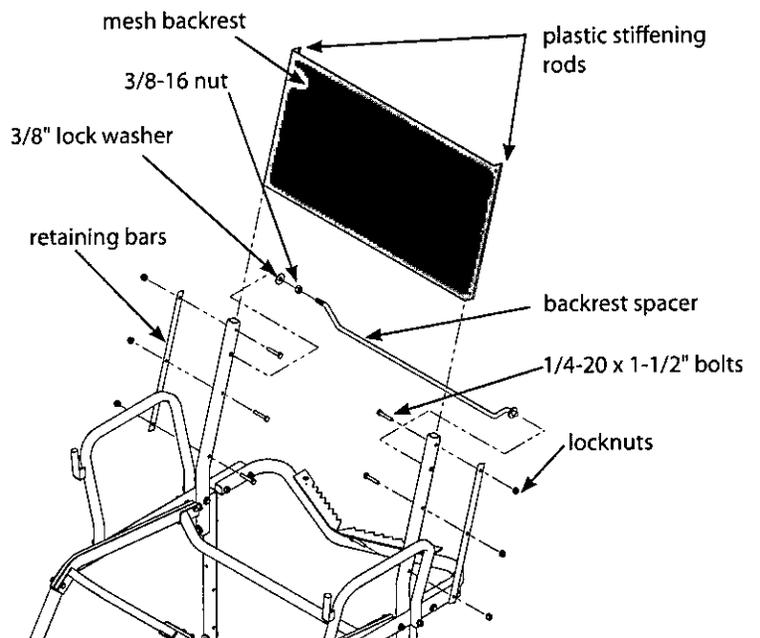

Figure 10
13. Attach the mesh backrest (360022) and the (2) retaining bars (410081) to the backrest mounts using (6) provided 1/4-20 x 1-1/2" bolts and locknuts. **SEE FIGURE 10.** The mesh backrest must wrap around the front side of backrest mounts and the plastic stiffening rod located in the sewn sleeve on each side of the backrest **MUST** be positioned behind the backrest retainer bars to act as a stop and prevent the backrest from pulling out during use. All bolts **MUST** go through the backrest retainer bars to the backrest mounts and the backrest mounts. **SEE FIGURE 10.** Temporary removal of the backrest mount tube from the rest of the assembled ladder top may be necessary to attach the mesh backrest. If this is needed, re-attach backrest mount tubes with mesh backrest to the ladder top assembly.
14. Thread the non-locking 3/8-16 nut onto the threaded end of spacer rod all the way to the bottom of threads and slide 3/8" lock washer on. Insert the threaded end of spacer rod through either backrest mount tube far enough to be able to insert the opposite end of spacer rod (end with welded-on washer) into opposite backrest mount tube. Thread 3/8-16 nut back against mount tube. Using a 9/16" wrench, tighten nut until mesh backrest becomes taut. **SEE FIGURE 10. You must now tighten all nut and bolt assemblies. Be sure not to over tighten or crush tubing when tightening!**